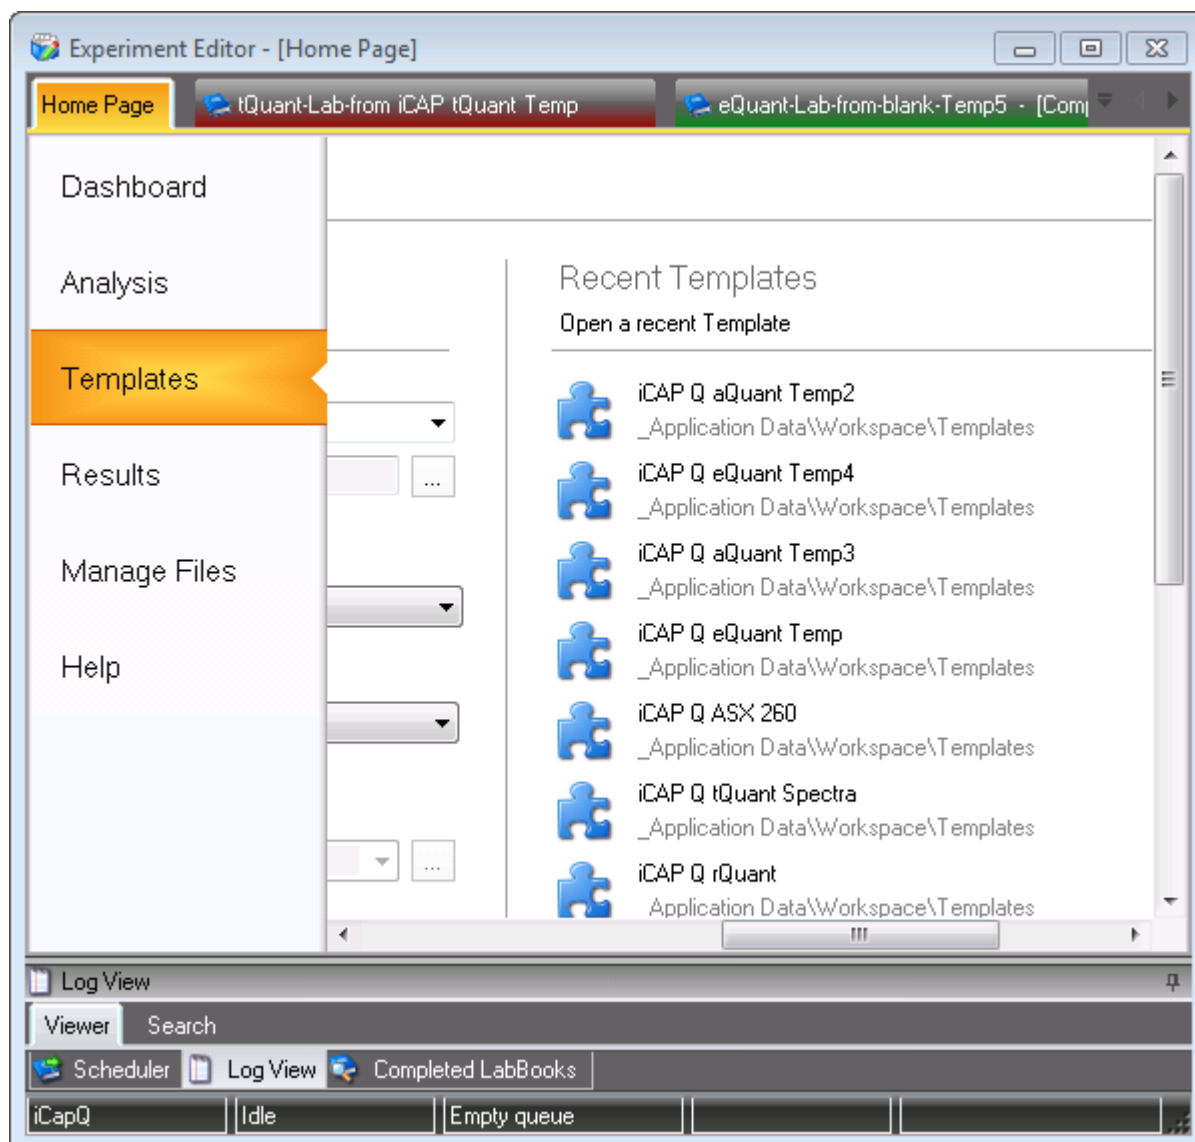

Figure 5-19. Recent Templates
3. Click on a Template in the **Recent Templates** section, see Figure 5-19.